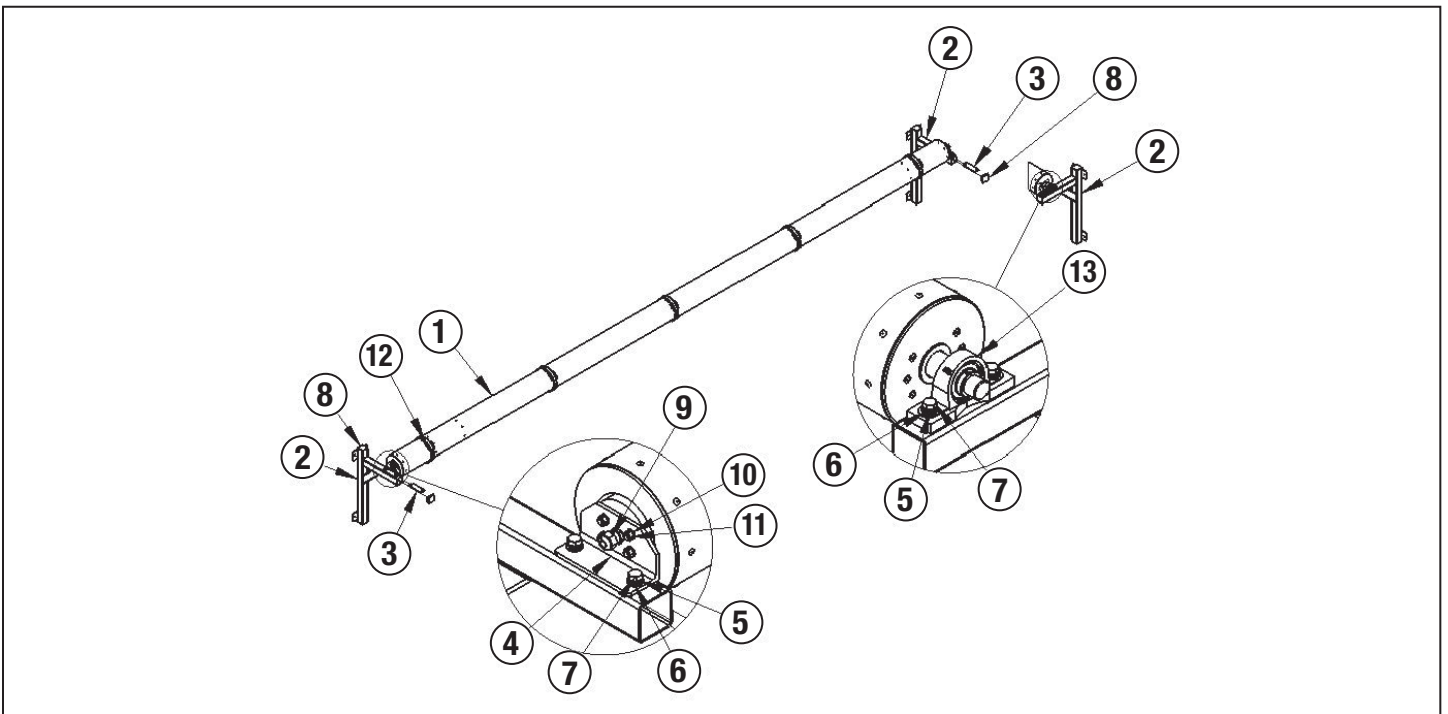
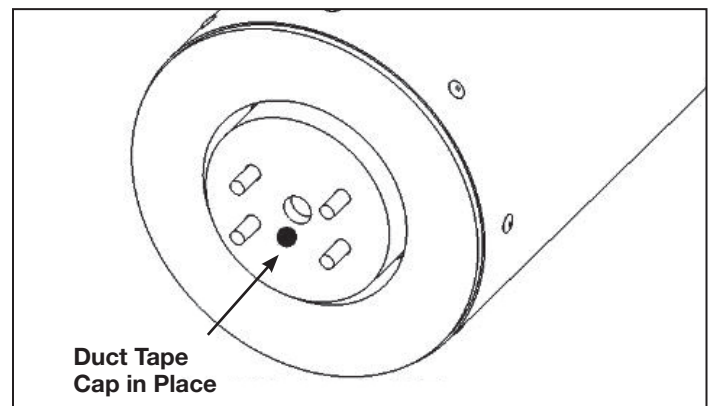
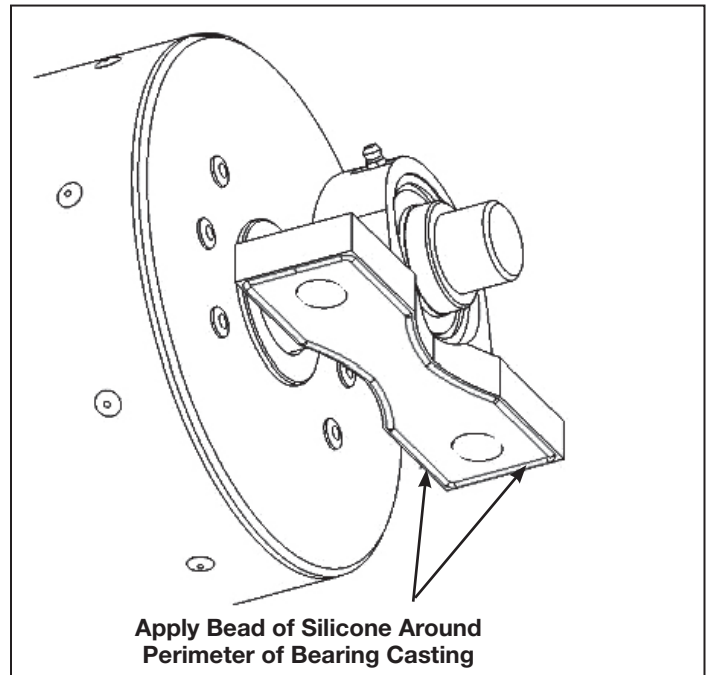

Figure 1.
Figure 2.
Figure 4.
3. With the roller on the ground, attach the motor bracket, Item 4, to the roller, Item 1 (see Figure 1). Be careful to not pull out the black end cap of motor. It is better to use some duct tape to keep end cap in place while setting up, see Figure 2.
1. With the wall brackets mounted, use a suitable equipment lift, to lift roller up on top of brackets. Apply a small bead of silicon around stainless bearing casting before bolting down, See Figure 4. Slide the mounting plates, Item 3 in Figure 1, into the tubes that are protruding from the wall. The holes in the plates need to align with the holes in the tube. The bolts that hold down the bearing and motor bracket thread into the hole in the mounting plate. Once the roller is bolted down, apply Loctite-242 “Blue,” or equivalent, to the bearing’s set screw, then install and tighten the set screws.
2. Motors are not shipped with a plug on the power cord. Have a three-prong (NEMA 5-15 TYP) plug wired by an electrical contractor. Plug in and turn on power and check remote. The brackets have accommodation for routing the power cable through them, if so desired. Install the tube closure plugs, Item 8, Figure 1 after the wiring is complete. Note the remote will come with a short limit setting. Adjust the limits as described later in this document per the flow chart in section 3.2, *Changing Motor Direction*.